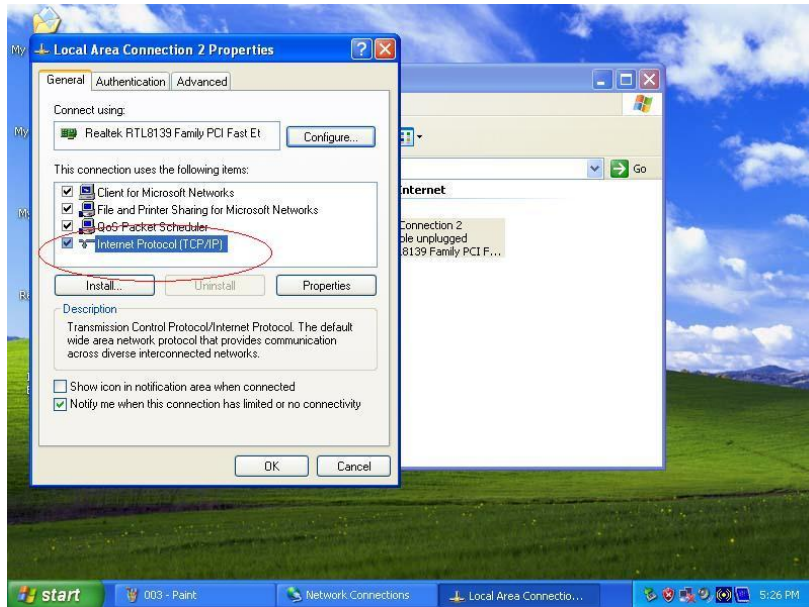

Figure 1.6
1.6 Double click on “Internet Protocol (TCP/IP). See Figure 1.6